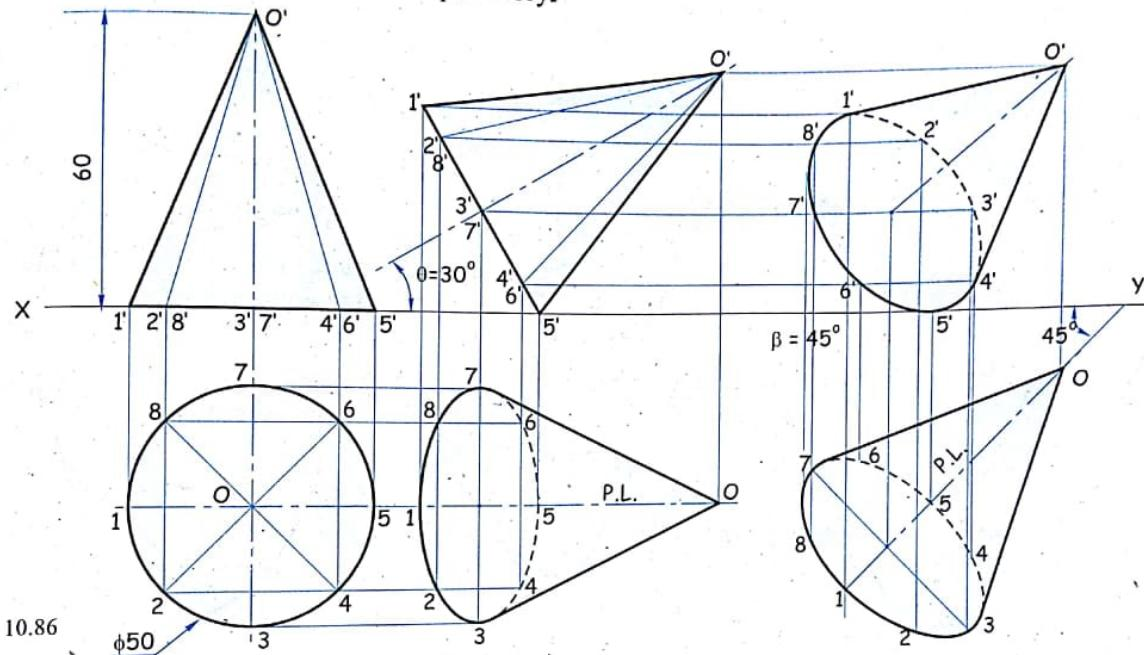

FIG. 10.86
**Solution :** Refer figure 10.86. It is self explanatory.